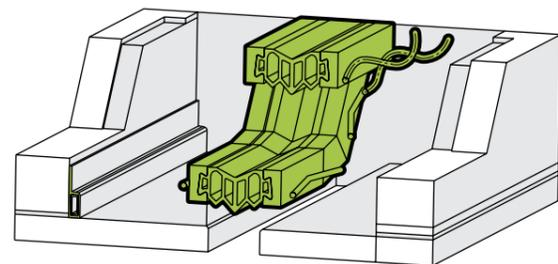

Fig. 2 : Details of section upstand.
- end section upstands - *figure 2*;